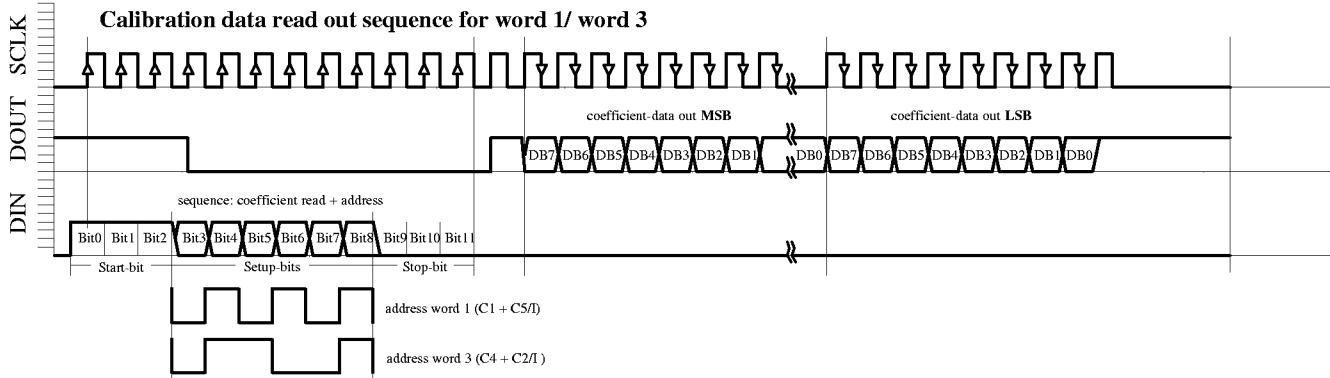

Figure1c
- Calibration data read-out sequence for word 1 and word 3 (Figure1c)